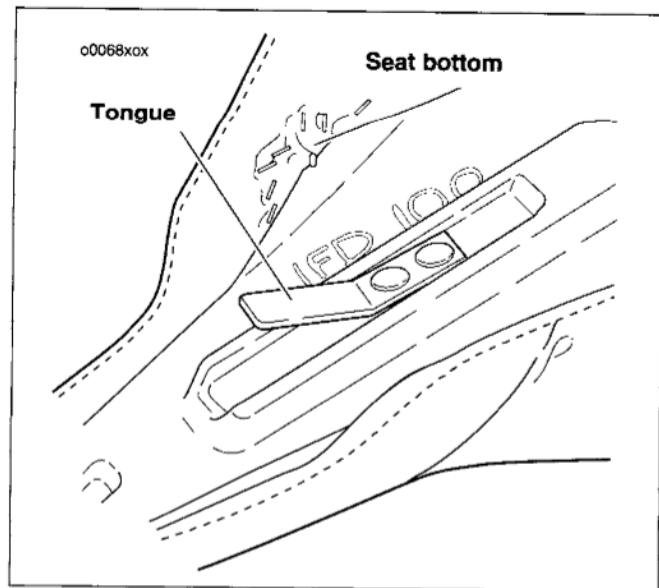
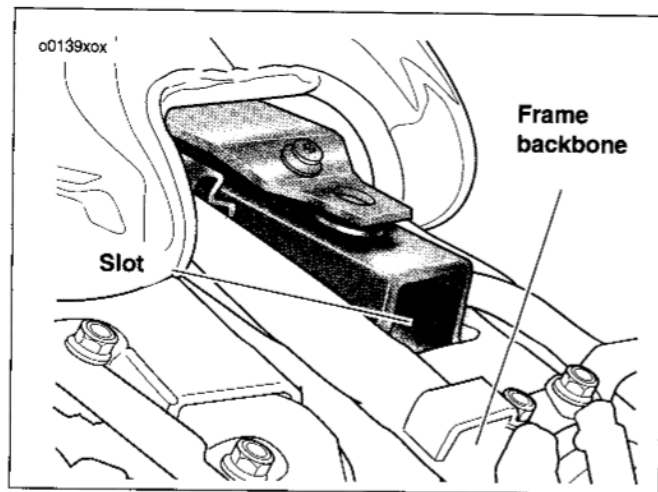
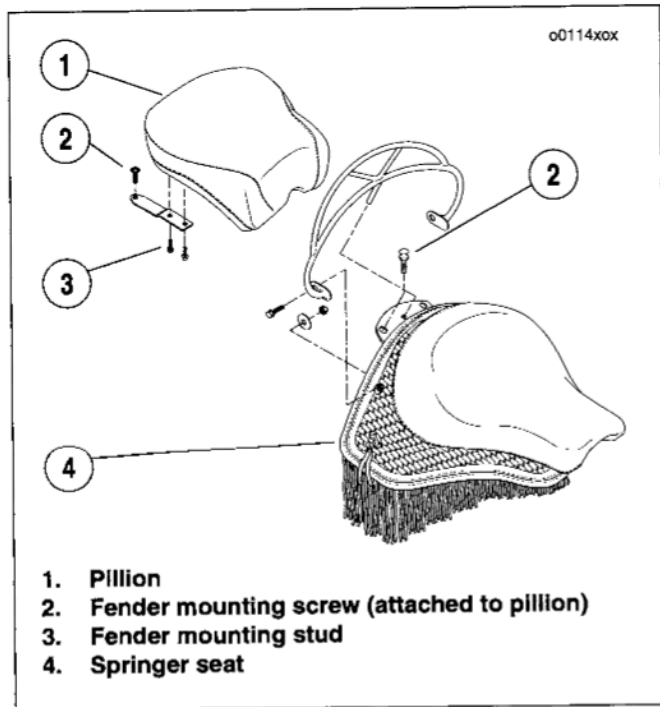
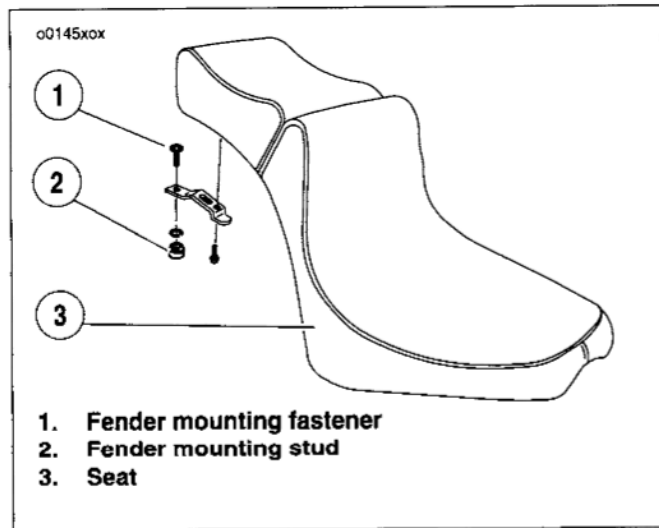

Figure 45. Seat Tongue
Figure 46. Frame Backbone
Figure 47. FLSTS Seat
Figure 52. Seat
See Figure 45. See Figure 46. All Softail Harley-Davidson motorcycles have a tongue underneath the seat that slides into back end of frame.
1. See Figure 47. Remove fender mounting screw from top of rear fender.
1. See Figure 47. Detach fender mounting screws from top of rear fender.
2. See Figure 45. Push seat rearward to free tongue at front of seat from slot or bracket in frame backbone.
1. See Figure 47. Remove fender mounting fastener (Item no. 2) from top of rear fender.
6. See Figure 45. Push seat rearward to free tongue at front of seat from slot or bracket located in frame backbone.
1. See Figure 47. Remove fender mounting screws from top of rear fender.
1. See Figure 52. See Figure 45. See Figure 47. Place seat on frame backbone.